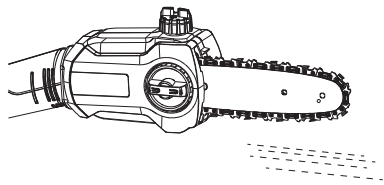

Fig. 14
1. Make sure the guide bar (16) and the saw chain (17) are in place when you check the oil delivery.
2. Start the product; keep it running at no load and check if the chain oil is delivered as shown in the figure (Figs.14, 15).